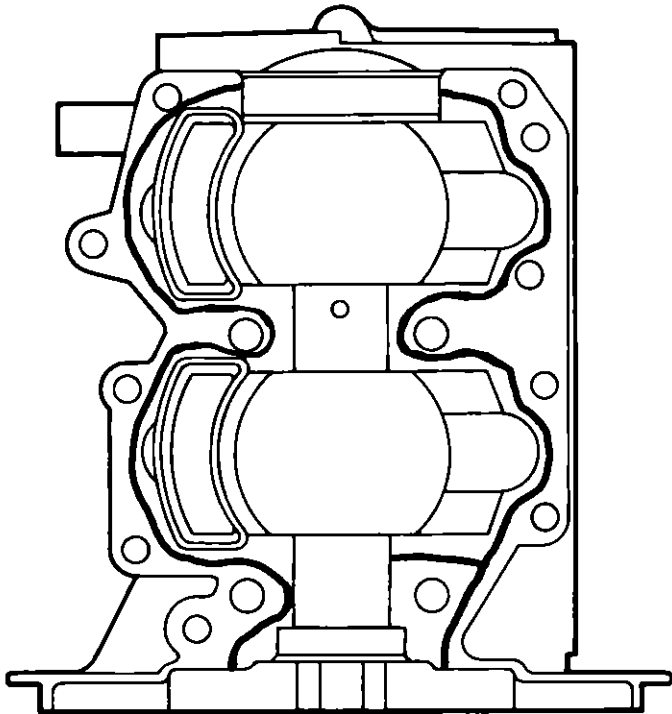

Figure 33 Applying Sealant to Parting Line
- B Apply a bead of fresh sealant, (Special Tool No T 8983), to parting line surface of cylinder. Cover evenly and completely and make sure sealant reaches lower main seal case and upper main bearing race. Figure 33. Assemble crankcase cover to cylinder within 3 minutes after application to insure seal effectiveness